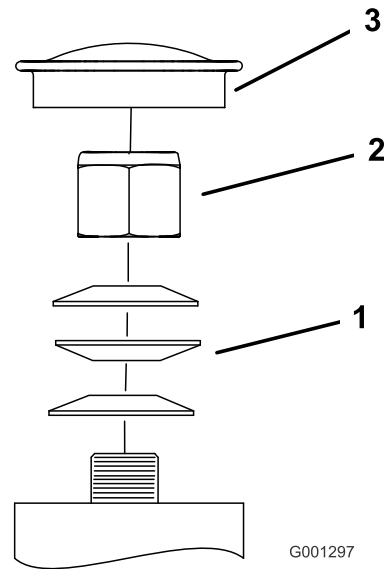

Figure 71
3. Remove the dust cap from the caster and tighten the locknut (Figure 71).
4. Tighten the locknut until the spring washers are flat and then back off a 1/4 turn to properly set the pre-load on the bearings (Figure 71).
Important: Make sure that the spring washers are installed correctly as shown in Figure 71.
5. Install the dust cap (Figure 71).